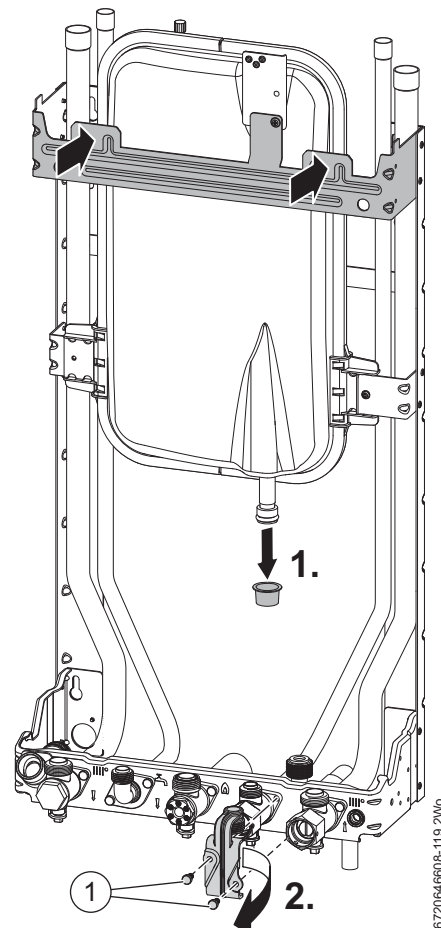

Fig. 34 Mounting points
Refer to figure 34
- Remove the two screws (1) holding the pre-plumbing connector in place.
- Replace the two screws (1) removed earlier and tighten firmly.
- The boiler is mounted on the wall frame utilising the two mounting points, indicated on figure 34, left and right at the top of the wall frame.